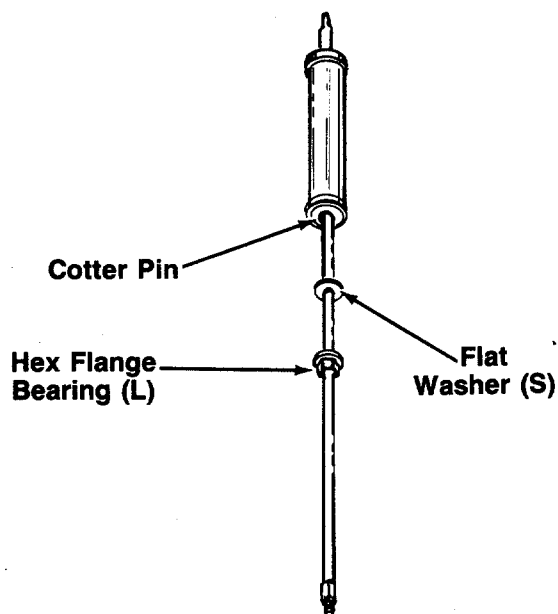

FIGURE 5.—Style A Only
4. Hold the **steering shaft** upright, so that the **cotter pin** is closer to the top of the shaft. Slide the **steering tube spacer** and **steering tube** down over the shaft (above the cotter pin). See figure 5.
5. Slip **flat washer** (1 1/4" diameter) on the **steering shaft** immediately below the cotter pin. Place one plastic **hex flange bearing** flat side up, below the washer. See figure 5.